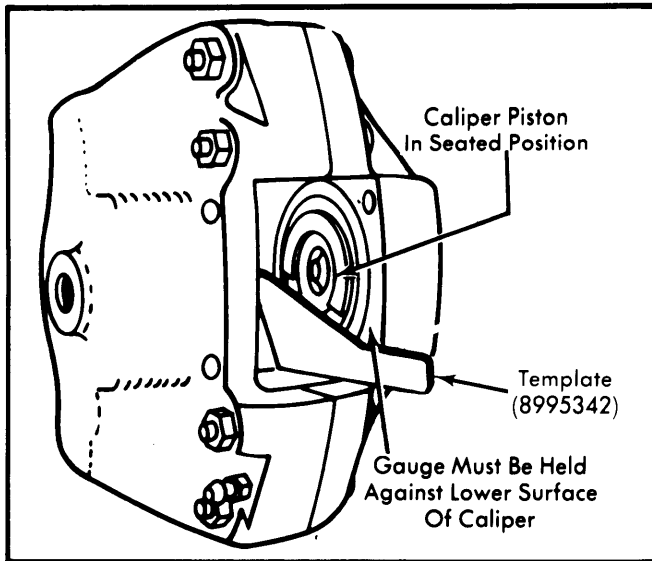

Fig. 4 Checking ATE Caliper Piston Position
**Reassembly** — Coat all parts with clean brake fluid and install new piston seals in cylinder bores. Carefully install pistons into cylinder bores. Check piston position with template (89 953 42). See Fig. 4. Install rubber boots and retaining clips. Install bleeder screw and disc pads.